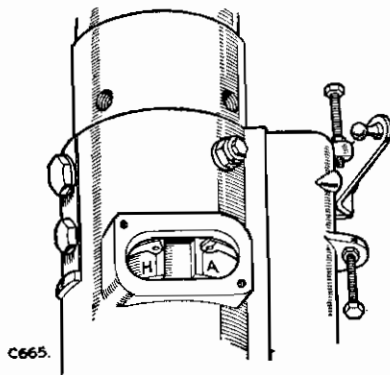

Fig. A-432—Injection pump timing marks correctly aligned
4. Offer the pump to the engine and engage in the splined drive shaft. With a small mirror observe the markings through inspection aperture in injection pump and make any final necessary adjustment by turning the pump body to align the timing ring with the "A" mark. See Fig. A-432.
6. With a small mirror observe that the timing mark "A" on the pump drive plate aligns with the mark on the timing ring. See Fig. A-432. When the "A" mark is exactly in line with the mark on the timing ring, the 16° flywheel timing mark should be exactly in line with the flywheel housing pointer. In this way any slight timing error is magnified by the 2 : 1 ratio of the camshaft to crankshaft. An error of a given width on the pump marking will be 12 times that width if transferred to the flywheel.